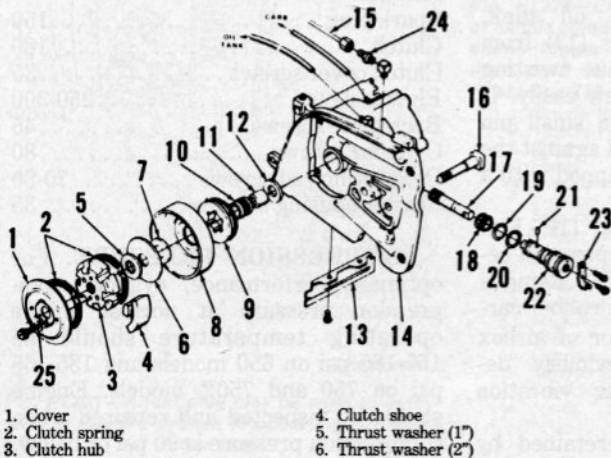
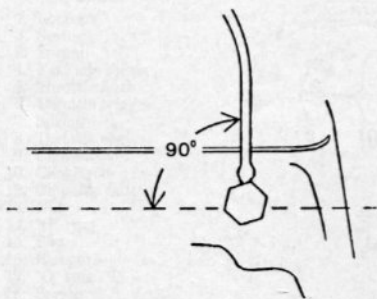

Fig. HL275—Exploded view of clutch and oil pump assemblies.
Fig. HL278—Oil line and fitting in oil tank must be angled close to 90° as shown above.
CLUTCH. Refer to Fig. HL275 or HL275A for exploded view of clutch assembly. To remove clutch, prevent flywheel rotation by inserting 3/16 inch rod through hole located in bottom of back plate into notch in flywheel. Using a Homelite clutch spanner or a suitable tool, unscrew clutch hub (3) in clockwise direction as shown by arrow on hub.
To disassemble automatic oil pump, unscrew oil pump bracket screw and gently withdraw oil pump body (22—Fig. HL275). Do not lose cam pin (21) which is loose in pump body. Remove pin (21) and slide pump plunger out of pump body. Inspect pump plunger, body and “O” rings for excessive wear or damage. An excessively loose fit between pump plunger and pump body will cause low pump output. Oil “O” rings before installation in grooves of pump body. “O” rings must be straight in grooves and not twisted. Oil “O” rings before inserting pump body and plunger assembly into pump housing.
If oil pump operates correctly but oil output is insufficient, disconnect and clean oil lines and fittings (Fig. HL275). Install outlet elbow in oil tank wall to provide an angle of as close to 90° as shown in Fig. HL278 without pinching line. Elbow threads should be coated with thread sealant.